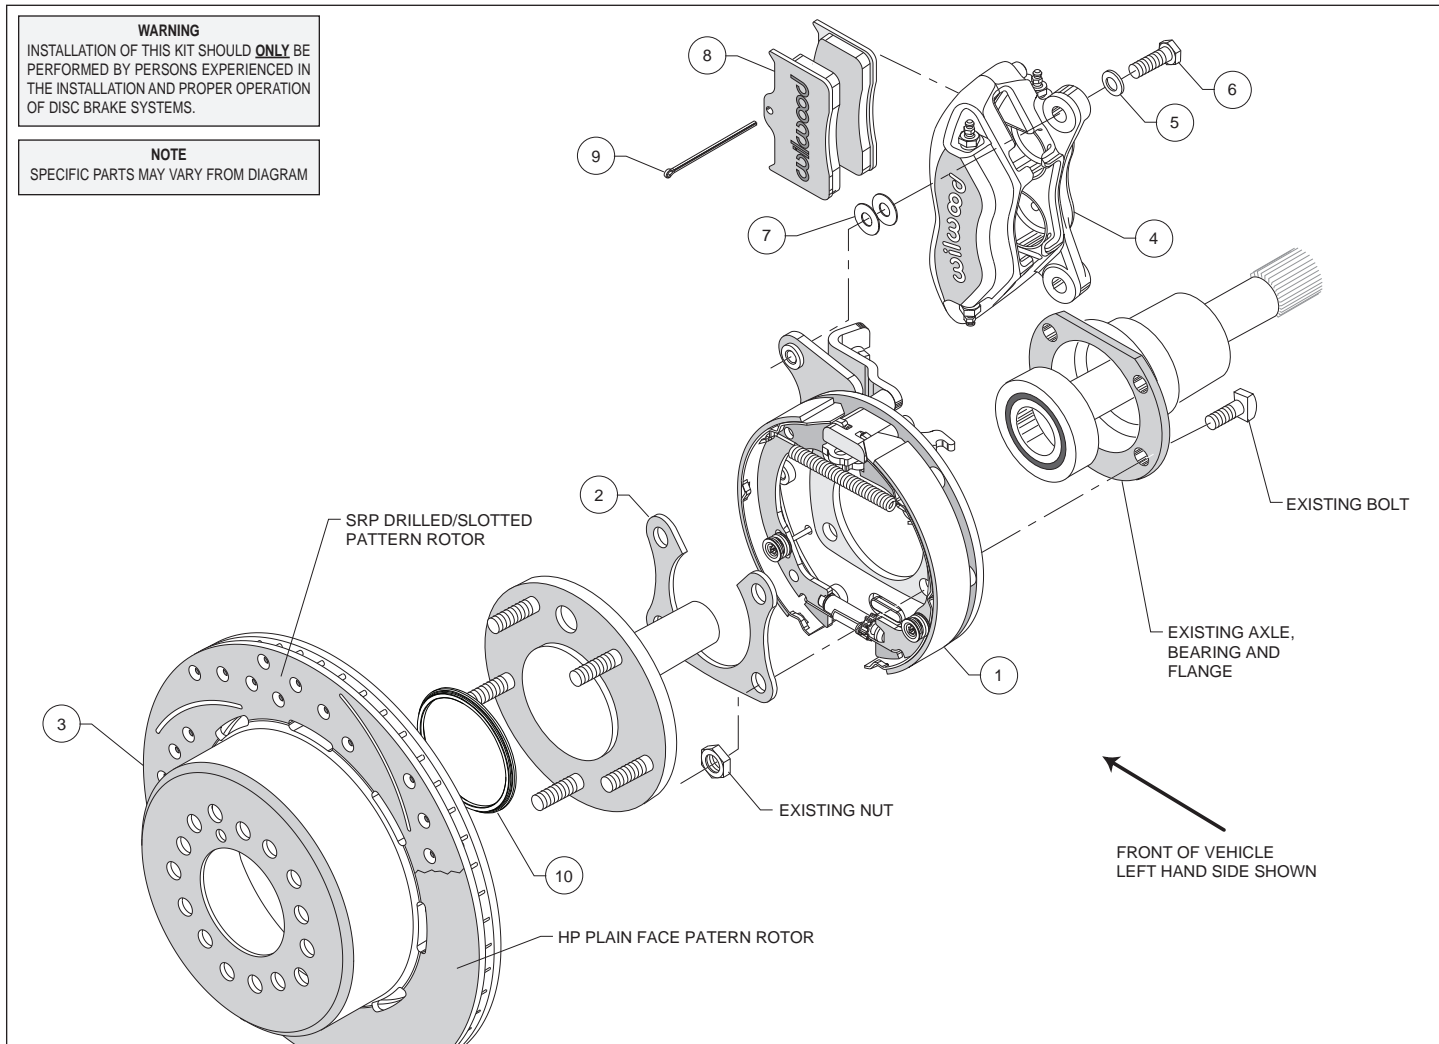
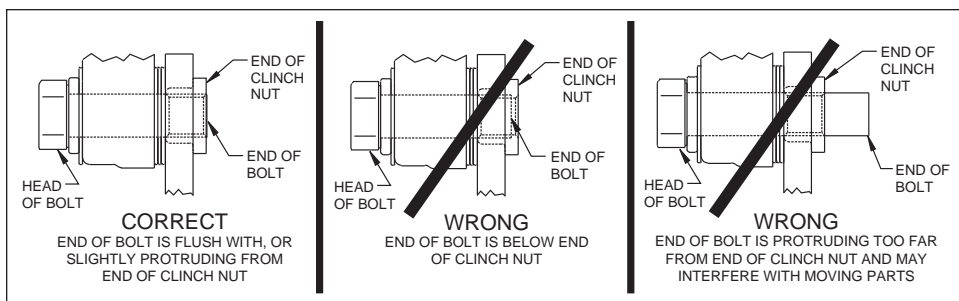

Figure 1. Typical Installation Configuration
Figure 5. Clinch Nut Engagement Diagram
Assembly Instructions (numbers in parenthesis refer to the parts list, and Figure 1 on the preceding pages): **CAUTION:** All mounting bolts must fully engage clinch nuts. Be sure to check that all bolts are either flush or protruding through flanged side of clinch nut after shimming, Figure 5.
- Orient the bracket assembly (1) as shown in Figure 1 and Photo 1 and slide it onto the axle. Insert the axle and bracket into the axle housing. Ensure that the bracket assembly backing plate fits flush against the axle housing flange.
- Install the bearing retainer (2) with the opening pointing upward and the lip facing inward (toward the bearing), as shown in Figures 1 and 4, and Photo 2. Secure retainer and bracket assembly to the axle housing flange using the Original Equipment Manufacturer (OEM) bolts and nuts, Figure 1. Apply red *Loctite*® 271 to the OEM bolt threads and torque to OEM specifications.
- Slide the rotor registration adapter (10) onto the axle register on the axle flange with the smaller O.D. facing toward the rotor/hat (3), Photo 3. Align the correct hole pattern in the rotor/hat with the stud pattern on the axle flange and slide into place, Figure 1 and Photo 4. **NOTE:** The rotor/hat must fit flush against the axle flange or excessive rotor run out may result. Install three lug nuts (finger tight) to keep the rotor/hat assembly in place while continuing with the installation. **NOTE:** Some OEM and after market axles come with stud sizes larger than 0.50" diameter. Verify stud size and have a qualified machine shop drill the bolt circle of the hat/rotor to the correct stud size, if necessary.
- NOTE:** Please reference the caution statement at the beginning of the assembly instructions. Mount the caliper (4) onto the caliper mounting bracket (1) using bolts (6) and washers (5), as shown in Figure 1. Initially place two .035" thick shims (7) on each bolt between the caliper and the bracket, Photo 5. Temporarily tighten the mounting bolts and view the rotor (3) through the top opening of the caliper. The rotor should be centered in the caliper, Photo 6. If not, adjust by adding or subtracting shims between the bracket and the caliper. Always use the same amount of shims on each of the two mounting bolts. **NOTE:** The end of each bolt must be flush with or slightly protruding from the head of the clinch nut, as shown in Figure 5. If necessary place spare shims between washer (5) and caliper mounting ear to achieve the proper clinch nut engagement. Once the caliper alignment and clinch nut engagement are correct, remove the bolts one at a time, apply red *Loctite*® 271 to bolt threads, and torque to 40 ft-lb.